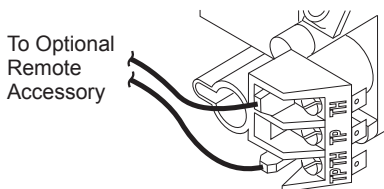

Figure 28 - Control Valve Terminals
4. Connect wires from receiver to TH and TPTH to control valve (see Figure 28).